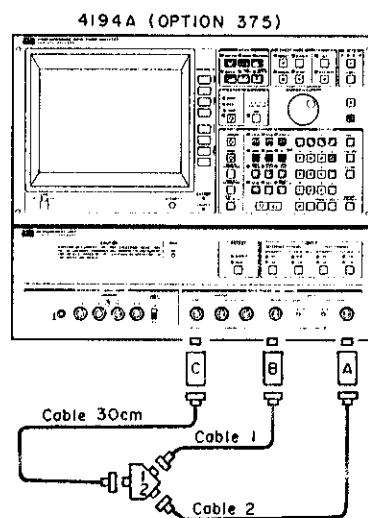

Figure 4-13. HP 11852A Insertion Loss Calibration Setup 3.
12. Change the setup as shown in Figure 4-13 using 50Ω cables. Connect PAD A to the TEST CHANNEL and PAD B to the REFERENCE CHANNEL.